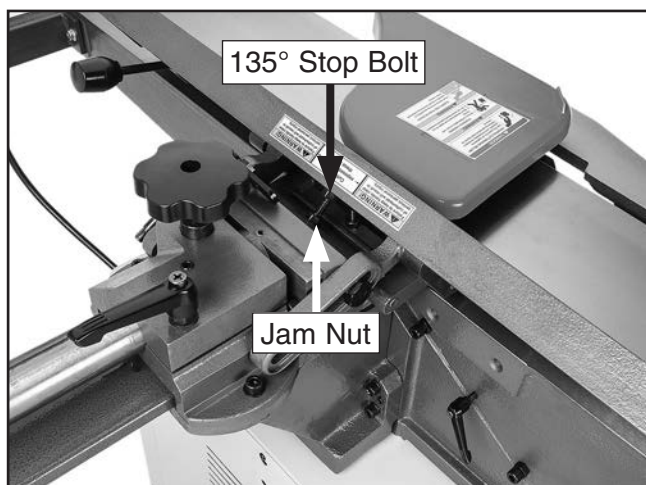

Figure 73. Location of 135° stop bolt and jam nut.
3. Loosen jam nut on 135° stop bolt (see **Figure 73**).